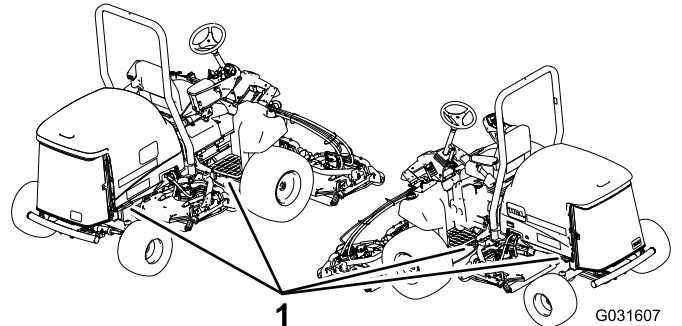

Figure 43
5. Use the metal tie-down loops on the machine (Figure 43) to securely fasten the machine to the trailer or truck with straps, chains, cable, or ropes.